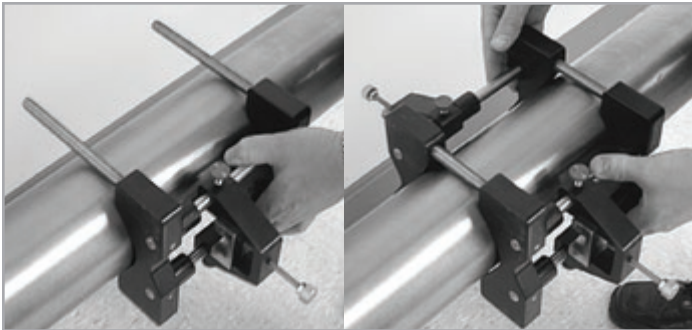

Figure 23: Mounting the two halves of the fixture
1. Position the half of the clamping fixture with the threaded rods around the pipe, as shown in Figure 23 below. Orient the fixture in the 3 o'clock position on a horizontal pipe.
2. Position the mating half of the fixture over the threaded rods in the 9 o'clock position. Figure 23 below shows the two mounted halves.